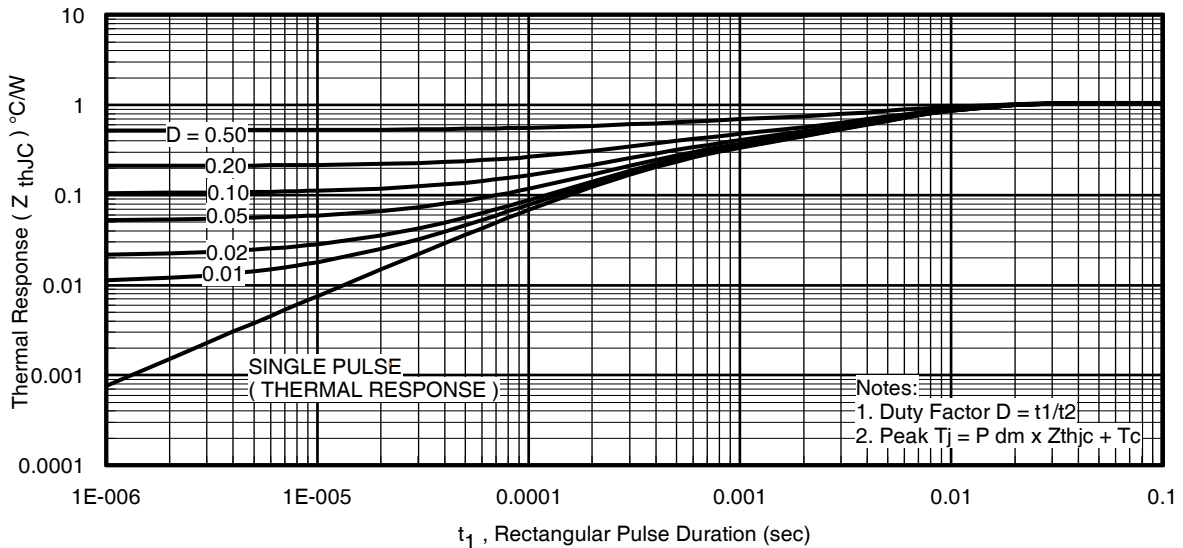

Fig 11. Maximum Effective Transient Thermal Impedance, Junction-to-Case
- ① Repetitive rating; pulse width limited by max. junction temperature. (See fig. 11).
- ② Limited by T_{Jmax} ; starting $T_J = 25^\circ\text{C}$, $L = 0.399mH$
Z_{thJC}(D, t_{av}) = Transient thermal resistance, see figure 11)